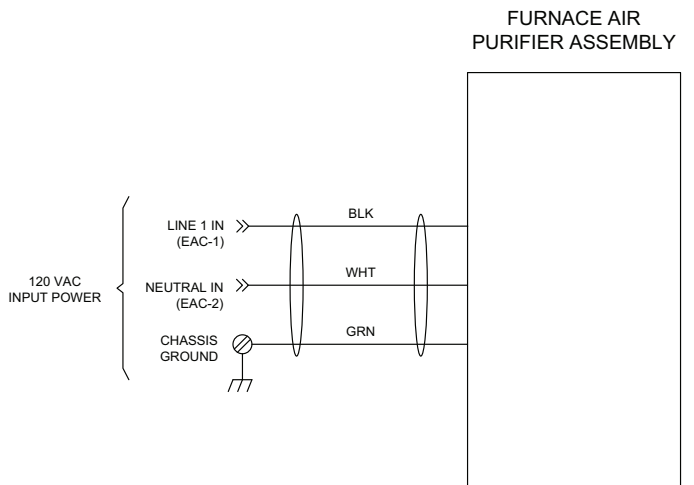
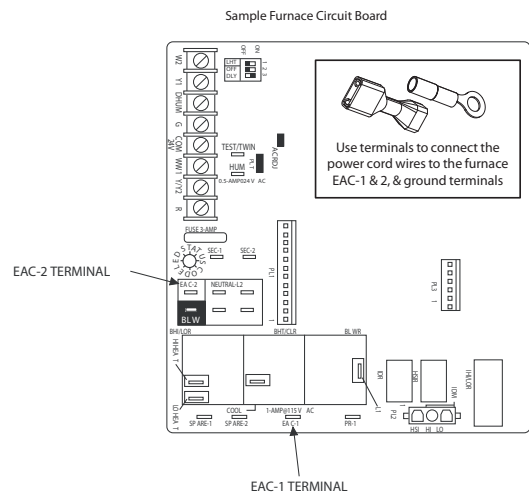

Fig. 11 – Furnace Installation
Fig. 12 – Air Purifier Connection to Furnace
4. Attach the quick connect terminals on the wires exiting the power conduit assembly to the furnace EAC-1 and EAC-2 spade connections. Attach the ground ring terminal on the third wire to furnace chassis ground (Fig. 11 and Fig. 12).
The air purifier should only be powered when airflow is present. The furnace control EAC spade connections, shown in Fig. 12, provide power only when the furnace blower is operating. Air purifier models DGAPAXX1625 and DGAPAXX2025 are designed to be powered from the electronic air cleaner (EAC) terminals on a furnace electronic control. If EAC terminals are not available, the Accessory Flow Sensor Kit (Table 5) must be purchased for use with the air purifier.